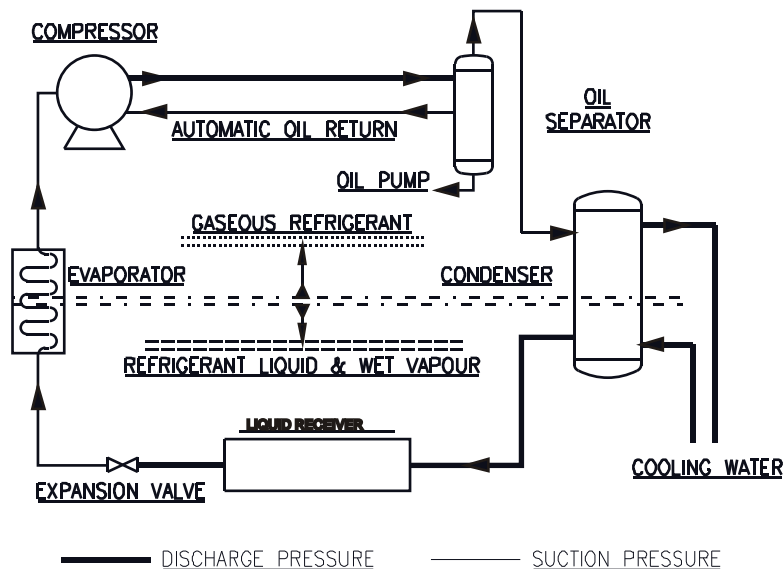

Fig. 1 : Diagrammatic layout of a refrigerating plant.
1.1.2. Generally, vapour compression system consists of four main parts, viz., The refrigeration compressor the condenser, the expansion valve and the evaporator (see fig. 1)